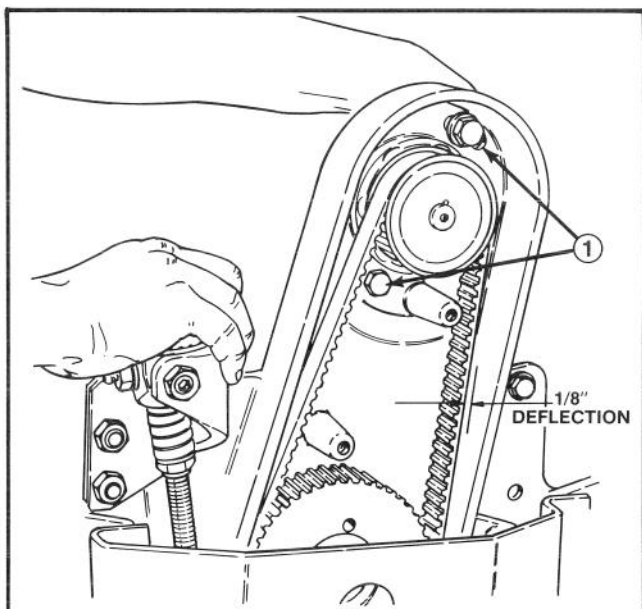

Figure 13
Insert the two (2) reel drive motor mounting bolts (heads on inside of the drive housing — flatwasher on top bolt) through the reel motor flange holes. Thread the locknuts onto the bolts. Rotate reel motor upward in the slotted hole in the housing to tension the drive belt and tighten the fasteners (Fig. 13) to approx. 25 ft. lbs. (34 N·m). **Note:** Proper belt tension is achieved when belt deflects approximately 1/8" (3 mm) at mid-point (Fig. 13).